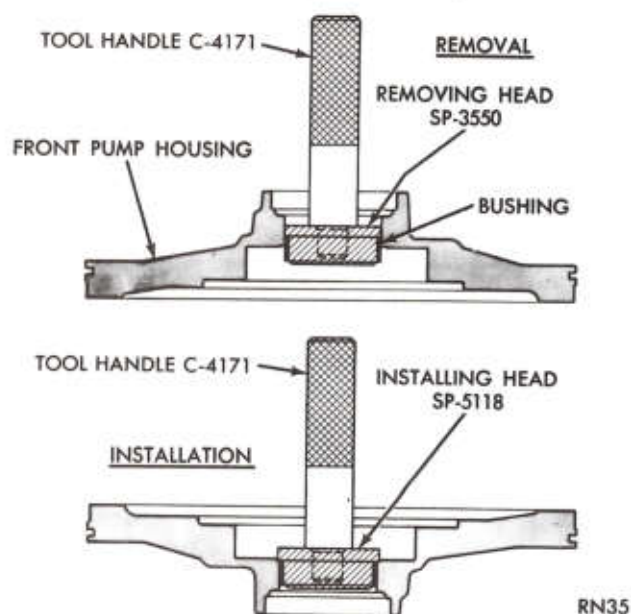
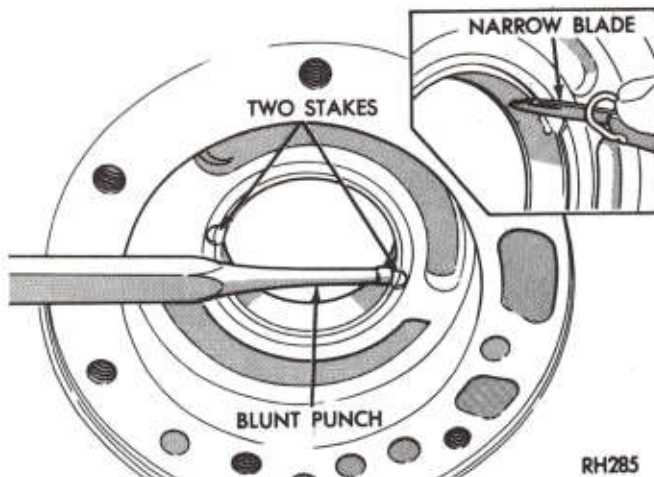

Fig. 15—Replacing Pump Bushing (A-727)
Fig. 16—Stake Pump Bushing (A-727)
- (2) Place removing head Tool SP-3550 in bushing, and install handle Tool C-4171 in the removing head (Fig. 15).
- (3) Drive bushing straight down and out of the bore. Be careful not to cock tool in the bore.
- (4) Position a new bushing on installing head Tool SP-5118.
- (5) With pump housing on a smooth, clean surface (hub end down), start bushing and installing head in the bushing bore. Install handle in installing head.
- (6) Drive bushing into housing until tool bottoms in the pump cavity. Be careful not to cock tool during installation.
- (7) Stake the bushing in place by using a blunt punch or similar tool (Fig. 16). A gentle tap at each stake slot location will suffice.
- (8) Using a narrow-bladed knife or similar tool, remove high points or burrs around staked area. Do not use a file or similar tool that will remove more metal than is necessary.
- (9) Thoroughly clean pump housing before installation.